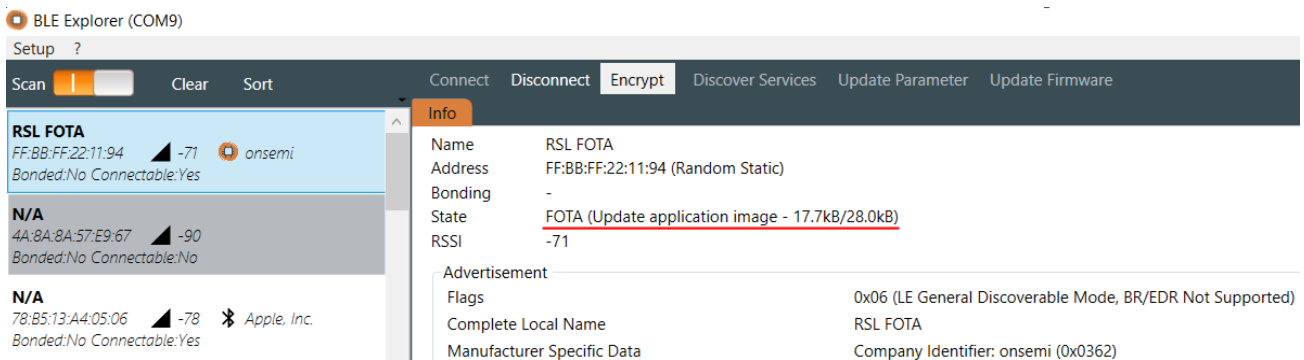

Figure 10. Updating Firmware
- Once the FOTA firmware image file is selected, it starts updating the firmware, as shown in the figure "Updating Firmware" (Figure 10).